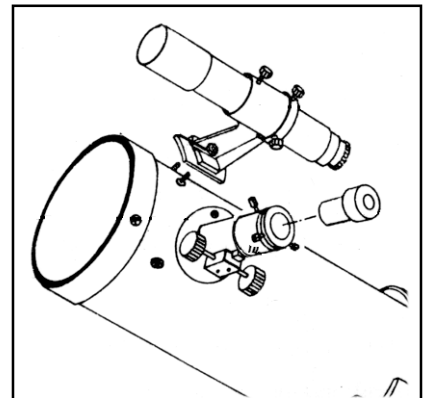

Figure 1-4
1. Remove the caps from the focuser draw tube (3).
2. Place the chrome barrel end of the eyepiece into the focuser (see Figure 1-4). Lock it into place with the thumb screw on the side of the focuser.
1. Remove the two small, silver thumbscrews located on top of the telescope tube. See Figure 1-4.